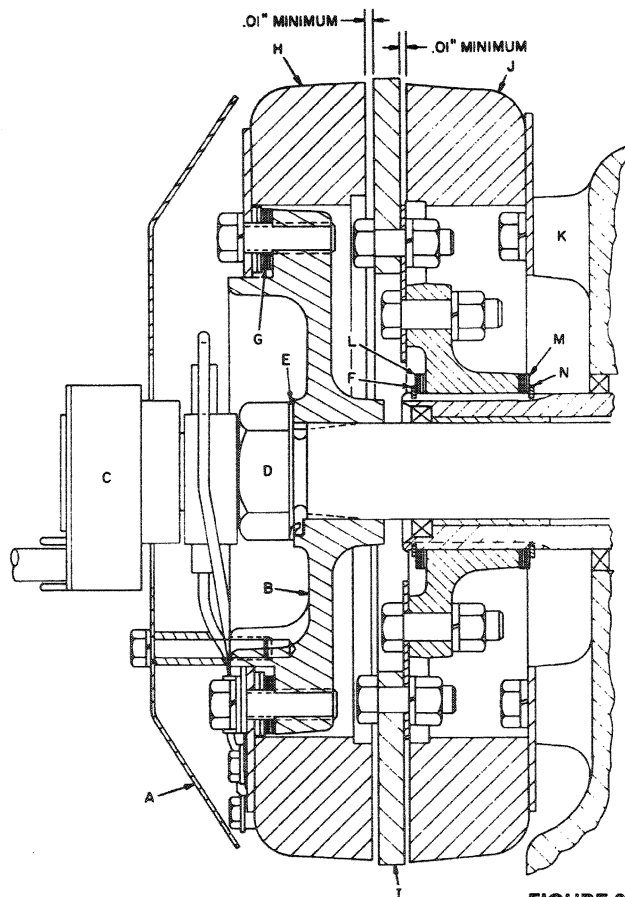

FIGURE 2-13
3. Install enough shims, L, Figure 2-13, along with the snap ring, F, so the armature hub cannot move on the splined shafts.
4. Install the forward magnet hub, B, Figure 2-13. Install the tang washers, E, and nut, D. Torque the nut to 125 ft. lbs. Bend the tang washer against a flat of the nut to prevent it from turning.
6. Install the brush box, C, Figure 2-13, and torque to 40 ft. lbs.-50 ft. lbs. torque.